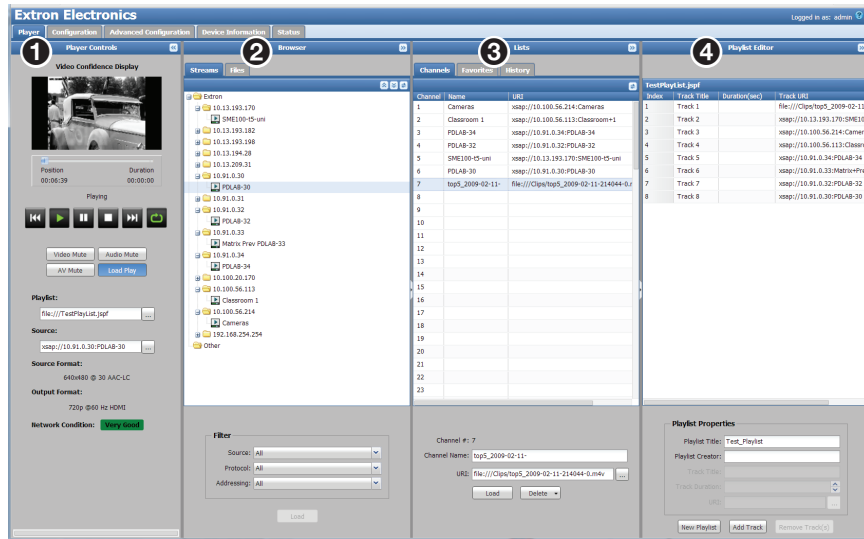

Figure 22. Player Page, Playlist Editor
By default, the **Player** page opens with the **Playlist Editor** open (see figure 22).
Playlists are stored in local media and are found using the files tab of the browser. Select a playlist on the **Files** tab of the **Browser** panel (see figure 22, 2). The playlist opens in the **Playlist Editor** panel for viewing or editing. The name of the currently selected playlist is on the title bar at the top of the **Playlist Editor** panel (4).